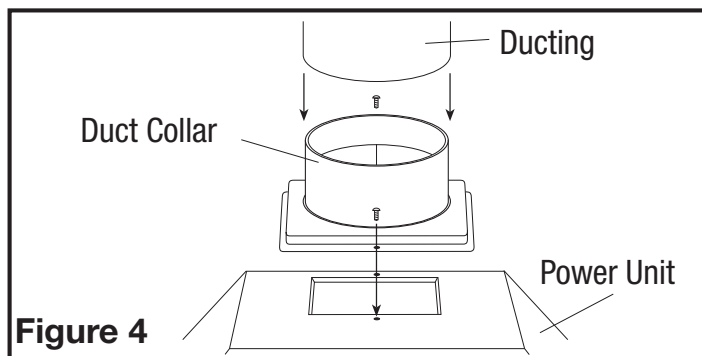

Figure 4
1. Install the included duct collar to the hood with two of the provided #6 blunt tip screws. Ensure duct joints and exterior penetrations are sealed with caulk or other similar material to create an air-tight path to minimize building heat loss or gain and to reduce the potential for condensation. Place/wrap insulation around duct and/or fan in order to minimize possible condensation buildup within the duct, as well as building heat loss or gain (**Figure 4**).
2. When there is access to the top of the unit, connect the ducting to the duct collar and secure in place using tape to seal all joints (**Figure 4**).